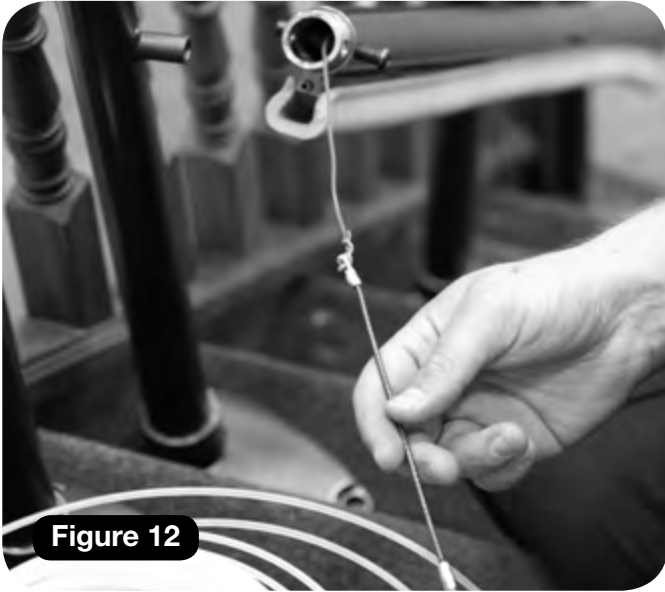

Figure 12
- 1** Use the pull through that you fitted inside the track to pull the red cable through the track **(Figure 12)**.